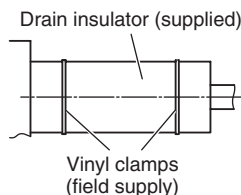

Fig. 2-114
- After connecting the drain pipe securely, wrap the supplied packing and drain pipe insulator around the pipe, then secure it with the vinyl clamps. (Fig. 2-114)